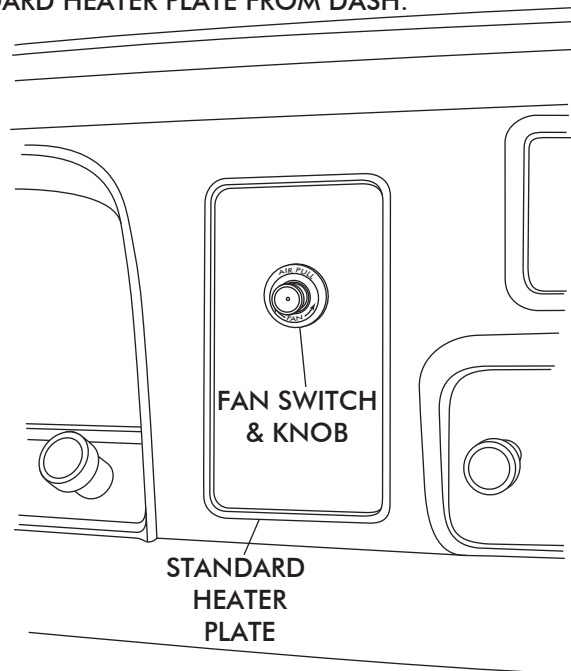

FIGURE 1
- ☐ REMOVE THE OEM FAN SWITCH AND KNOB FROM OEM STANDARD HEATER PLATE. (SEE FIGURE 1 BELOW)